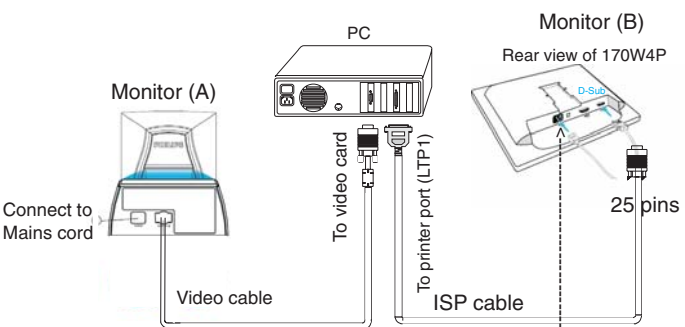

Fig. 10
Step 6-1 : reconnect mains cord between Electrical outlet (power source) and Monitor (B) again as shown in Fig. 10.